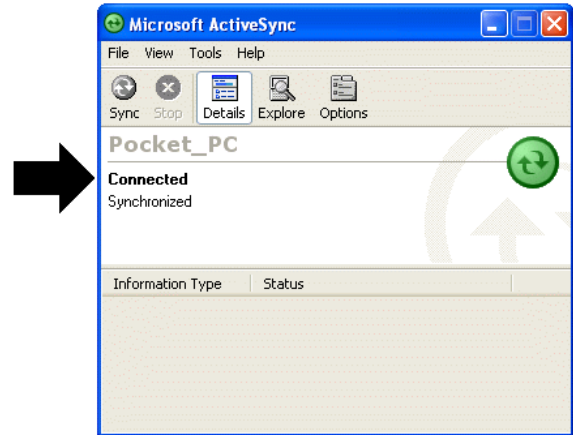

Figure 82. Connection Established.
- Continue with installation as directed. At the end of the wizard, the ActiveSync dialog will indicate the Detective-EX computer is **Connected** (Fig. 82). If ActiveSync cannot connect to the Detective-EX, see the troubleshooting steps in Section 7.10.